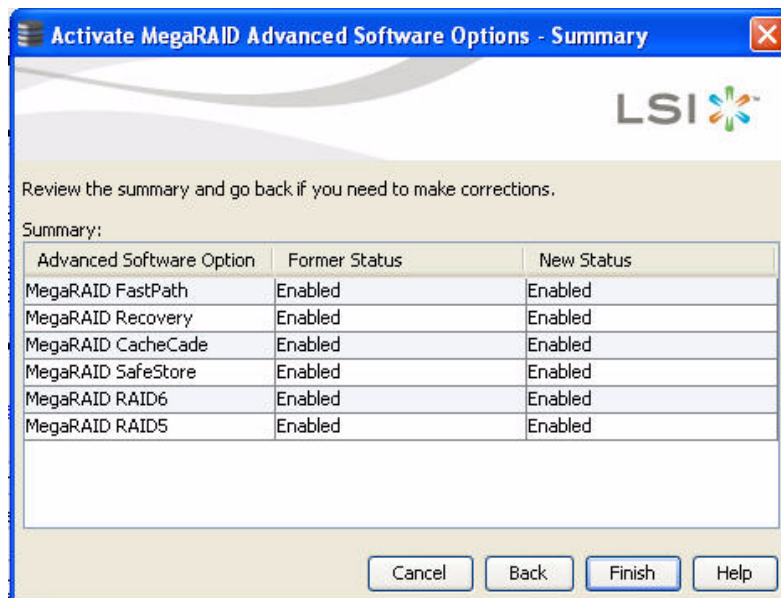

Figure 272: Activate MegaRAID Advanced Software Option– Summary Dialog
- The Activate MegaRAID Advanced Software Options – Summary dialog appears as shown in Figure 272.
NOTE: In Figure 272, instead of the option **MegaRAID CacheCade**, the options **MegaRAID CacheCade 2.0 software** and **MegaRAID CacheCade Pro 2.0 software** will be displayed.